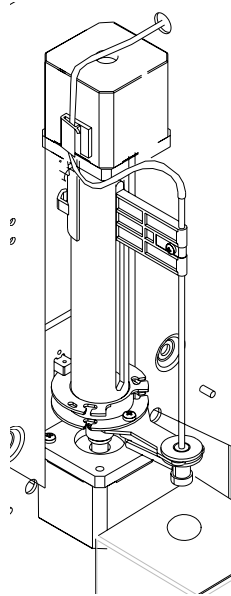

Figure 8-32 Sample probe above the bath
5. Press [] to move the sample probe upward and press [] to move the probe to above the bath, as Figure 8-32 shows.